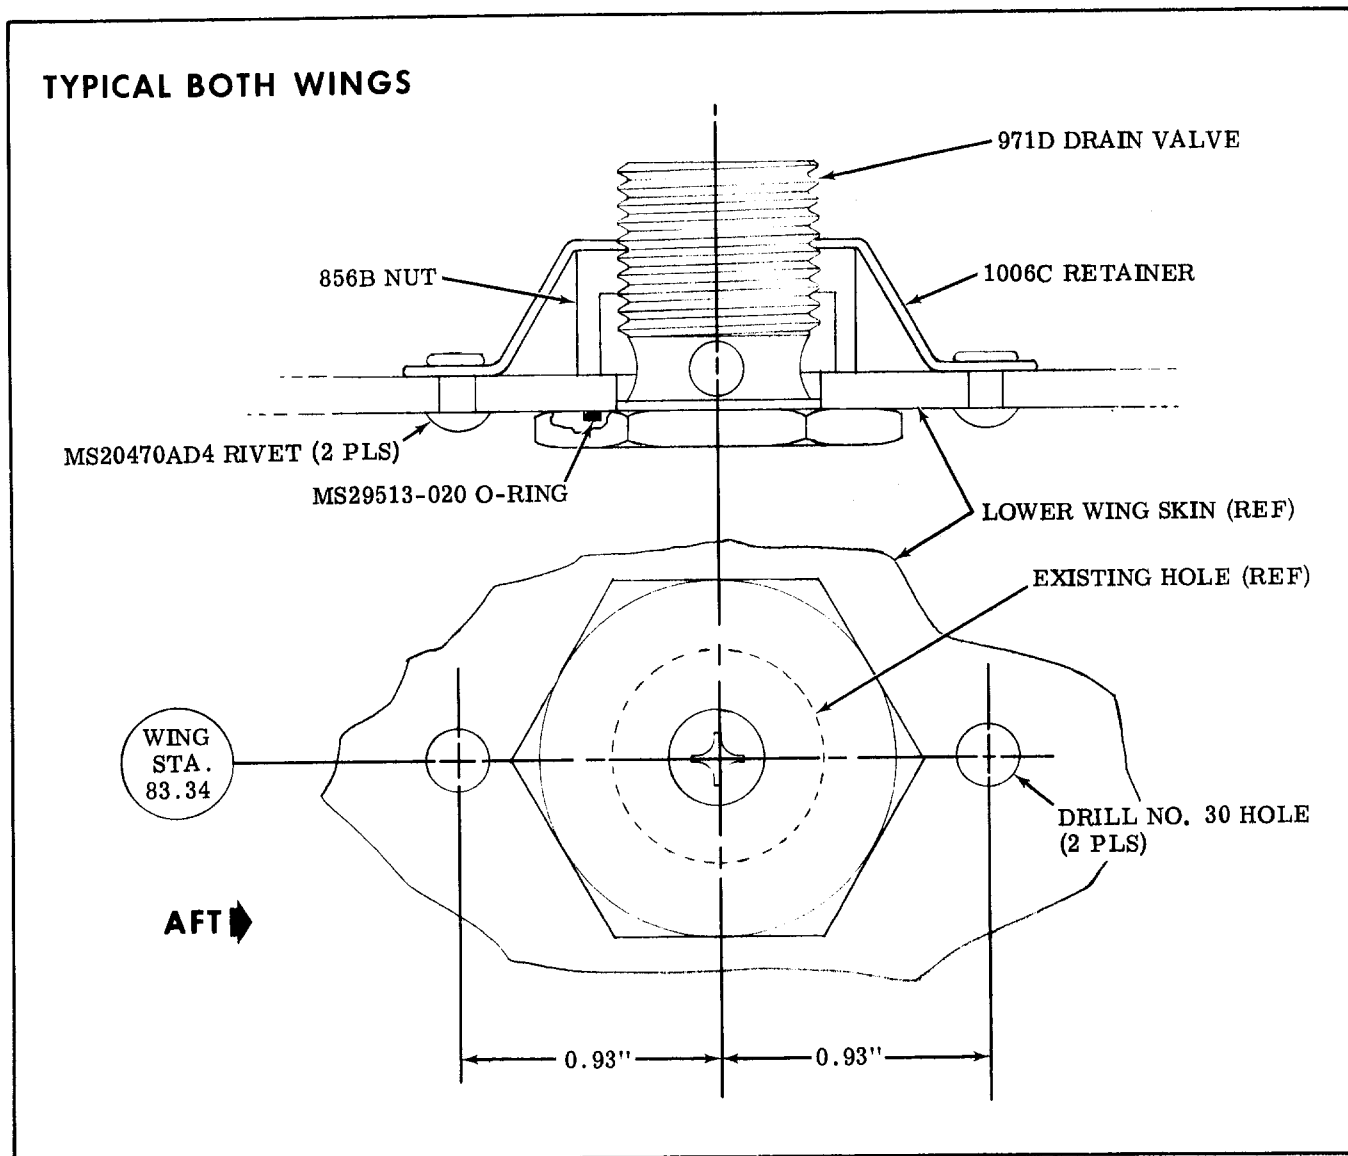

Figure 1.
4. Using 1006C valve retainer as a template, locate and drill two (2) No. 30 holes in left and right lower wing skins for installation of drain valve kit (see Figure 1.).
8. Install 971D drain valve, MS29513-020 O-ring and 856B nut. Torque nut 480 to 690 inch-pounds (see Figure 1.).